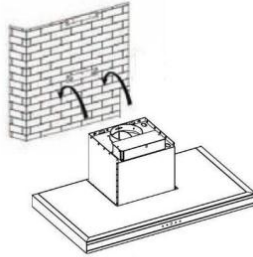

Fig.3
- Put the cooker hood on the hook, then fix the hood on the hook by screws, See Fig.3 and 4.